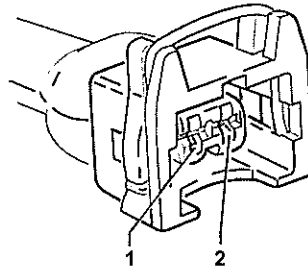

Fig 25 Connector plug for needle lift sender (G80)
60.3 Pull out the connector for the needle lift sender (G80), located with the injection pump connector, identified with a brown housing (see Fig 25). The needle lift sender is fitted to the injector rearmost cylinder (#5).